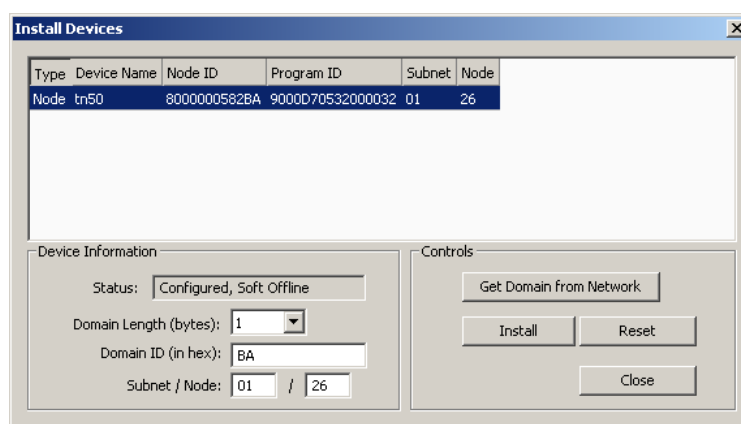

Figure 106: Install devices dialog.
5. Click the **Install** button. This opens the **Install Devices** dialog as shown in Figure 106.